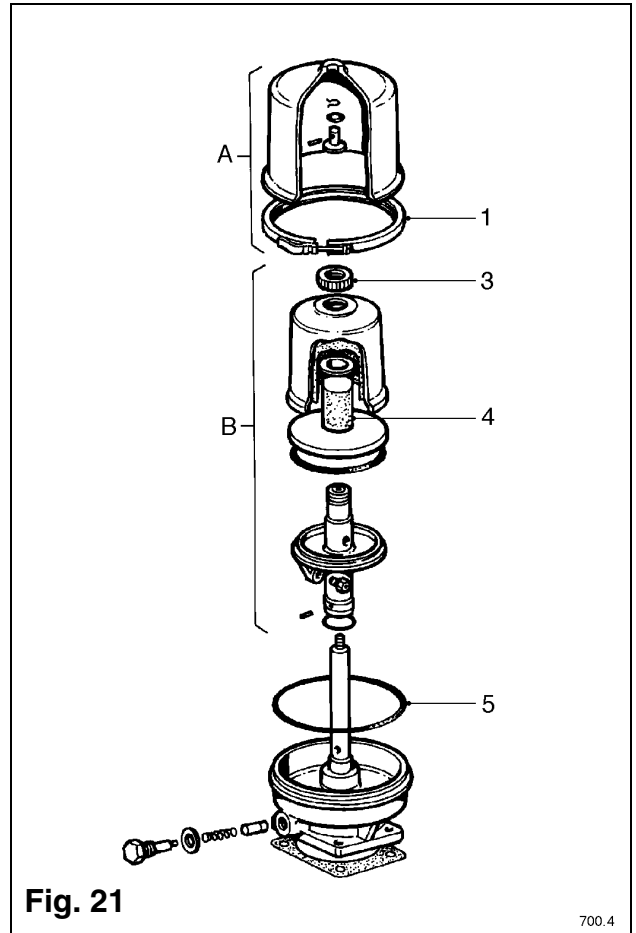

Fig. 21
1. Slacken safety clamp (1) unscrew cover nut and lift off cover (A). (See Fig. 21).
2. Lift off rotor assembly (B) having allowed oil to drain from nozzles. The rotor should be removed and replaced on the spindle with extreme care in order to ensure that bearings are not damaged.
3. Secure rotor in dismantling tool T6253/292. Unscrew rotor cover nut (3) and separate rotor cover from body.
4. Remove standtube (4) using extraction tool T6253/293 and clean.
6. Clean nozzle with brass wire. Examine 'O' ring (5) and renew if damaged.